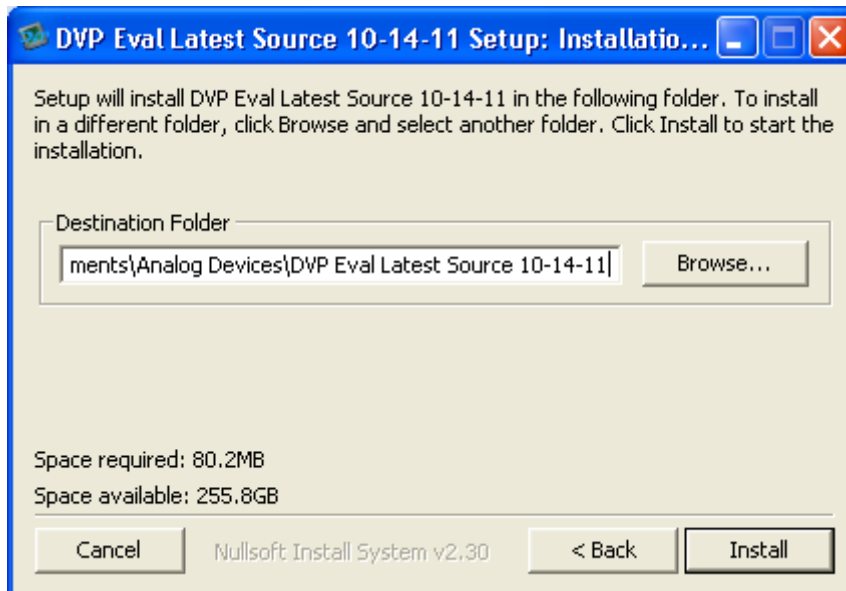

Figure 3. Installation Destination for DVP Eval Program
4. A new window (refer to Figure 3) appears, prompting to select the installation destination folder. Press the **Install** button.